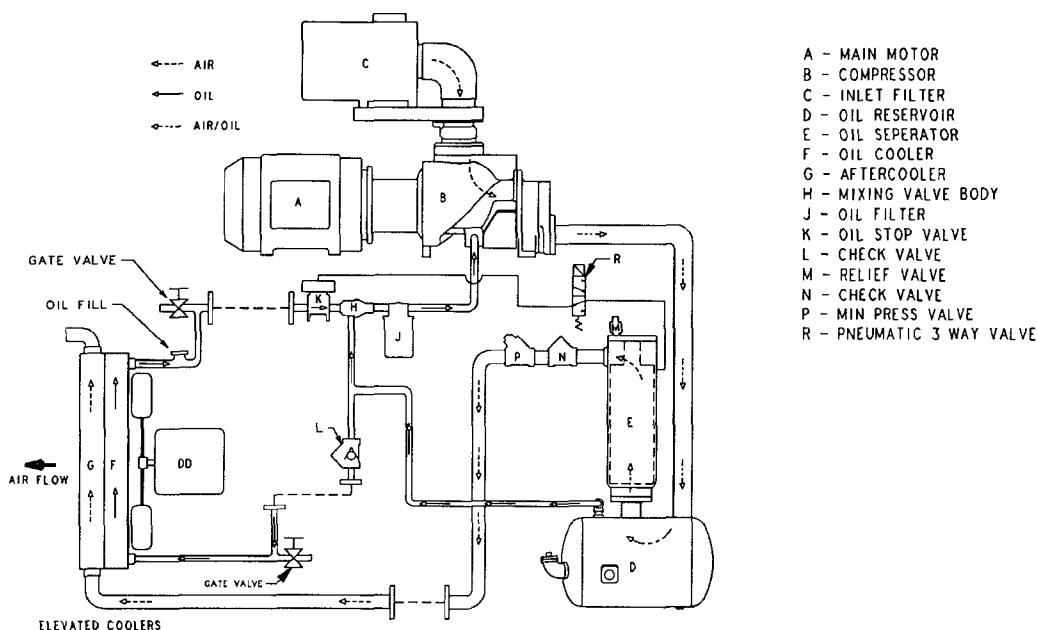

FIGURE 5-3 - OIL FLOW DIAGRAM REMOTE OVERHEAD MOUNTED
HEAT EXCHANGER (OIL) PIPING - All remote elevated cooler applications must be sent through Engineering for approval and for recommending the pipe size. When the cooling module is removed from the package, the thermal mixing valve (H) remains on the package. Control group part number 200ECM4002 will be mounted on the package at the factory. This group controls the oil stop valve as well as not allowing the machine to run blown down. See Figure 5-3, page 4, this section.
Kit number EAQ68330 includes the oil stop valve, check valve and flanges and must be installed on all remote elevated coolers per Figure 5-3, page 4, this section, and the following instructions. Mount the check valve (90J113) as shown. Mount the drain valves in the lowest section of the pipe on each side of the cooler connections. Mount the oil stop valve (90AR243) in the line after the thermal mixing valve as shown. Modifications to the control lines will be made at the factory per 288ECM810 schematic. Air to the oil stop valve must come from the upper fitting in the separator housing, then pass through the 3-way pneumatic valve. Control air to the valve must be from the line between the tee and the orifice in the blowdown muffler line per Figure 5-3, page 4, this section. When the machine blows down, it will activate the pneumatic valve and it will shut off the air and vent the line between the pneumatic control valve and the oil stop valve to atmosphere. This will shut the oil stop valve and prevent excessive oil from running into the reser-